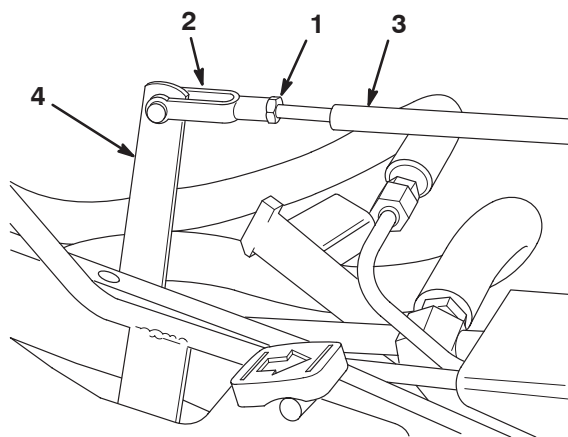

Figure 44
3. Move the adjustment lever by hand to level the mow and lift pedals and adjust the yoke on the control rod until the hole in the yoke lines up with the adjustment lever hole (Fig. 44).